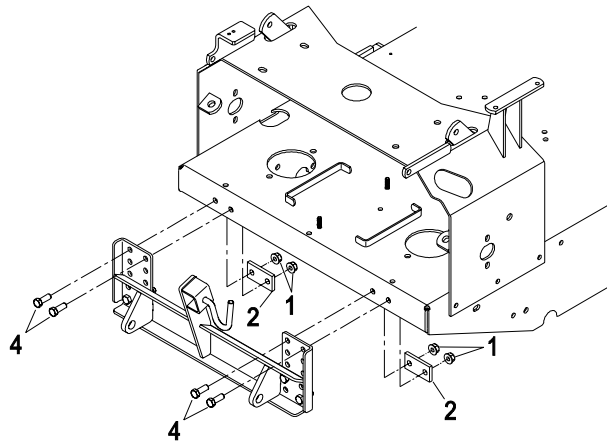

FIGURE 5
Install the mount brackets to the mower engine deck using (2) 3/8-16 x 1 1/4 hex capscrews (Item 4), (2) back-up plates (Item 2), and (2) 3/8-16 nyloc nuts (Item 1) as shown in Figure 5.